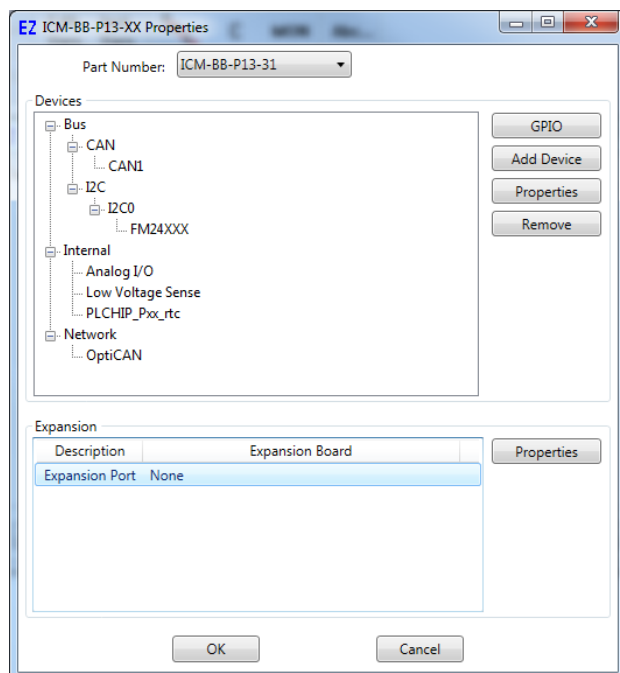
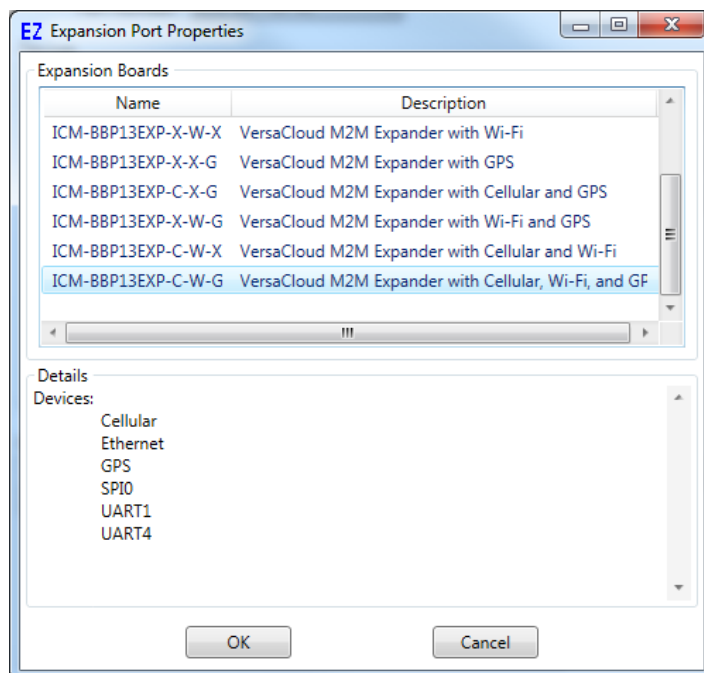

Figure 2-5 - Select I/O Expansion Board
Figure 2-6 - Select ICM-BBP13EXP-X-X-X Model
3. Double-click the Expansion Port in the Expansion pane. Refer to Figure 2-5. The *Expansion Port Properties* window will open. Refer to Figure 2-6.
4. Click / select the model of the ICM-BBP13EXP-X-X-X expansion board from the list. Refer to Figure 2-6. Click **OK**.